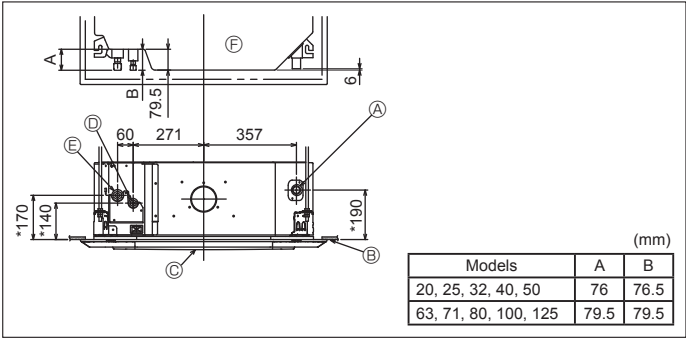

Fig. 4-1
4.1. Refrigerant and drainage piping locations of indoor unit (Fig. 4-1)